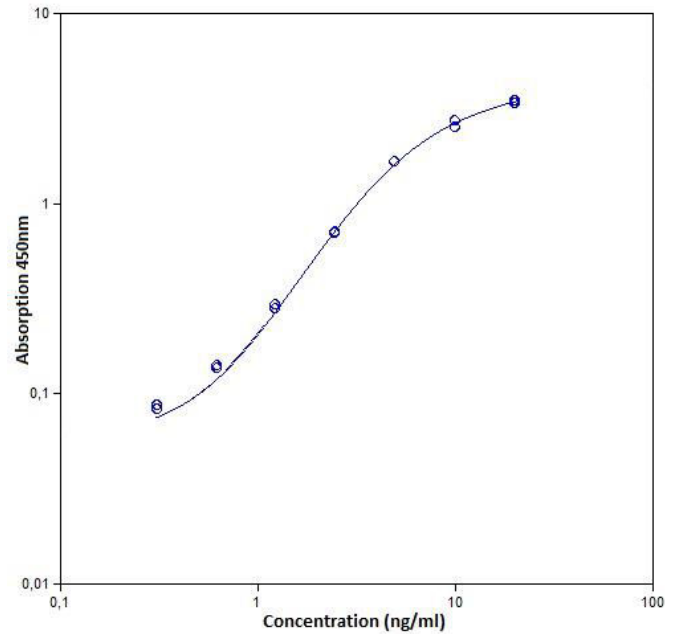

Fig. 9 Representative standard curve for human C3a ELISA. Human C3a was diluted in serial 2-fold steps Assay Buffer (1x).
- A representative standard curve is shown in Figure 9.